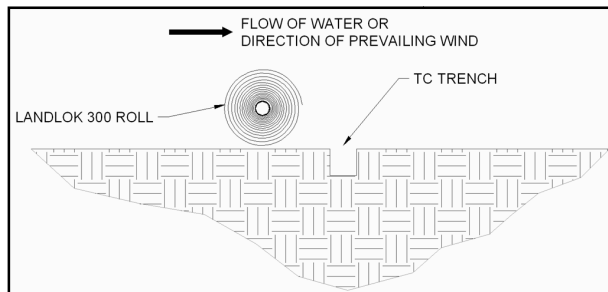

Figure 9: Terminal Channel (TC) Trench Alignment
8. Place the Landlok 300 roll edge in the TC trench, ensuring full coverage along the bottom of the entire TC trench with the Landlok 300 (Figure 9).
9. Secure Landlok 300 with pins in the TC trench (Figure 9). Suggested placement of pins for the TC trench is along the bottom of the trench on 12 in (300 mm) centers. Pins should also be installed on panel edge overlaps in the TC trench.
10. Backfill and compact the TC trench in the location of the first Landlok 300 panel only (Figure 9).